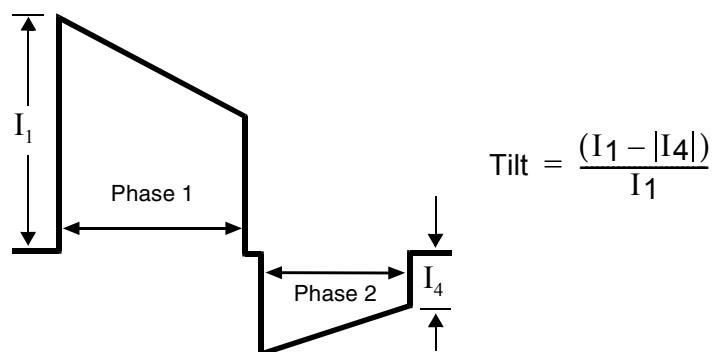

Figure A-1 Biphasic Waveform
**Waveform:** Biphasic Truncated Exponential, with voltage and duration compensation for victim impedance. See Figure A-1.